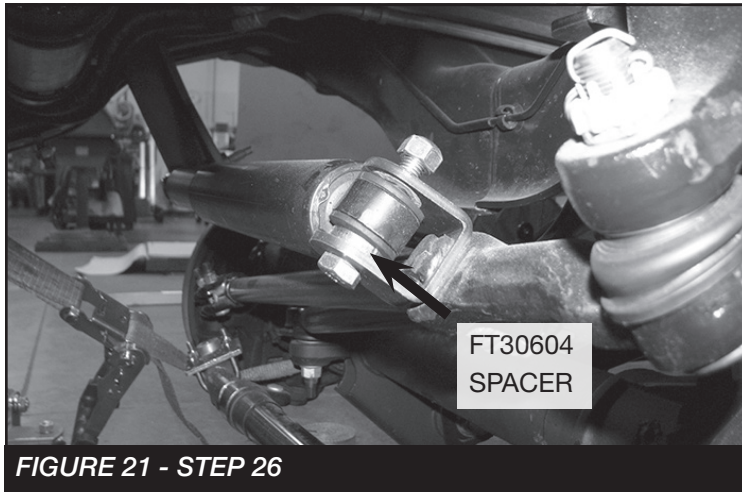

FIGURE 21 - STEP 26
26. Install FT30686 (Stabilizer Clevis) on the factory steering stabilizer using the supplied M12 hardware. **NOTE: Install FT30604 (spacer) like shown in the figure below.** Install the stabilizer using the supplied 1/2" washer and nut to the drag link. Using the factory hardware install the tapered end into the new quality Fabtech bracket. Torque to 127 ft-lbs. **SEE FIGURE 21**